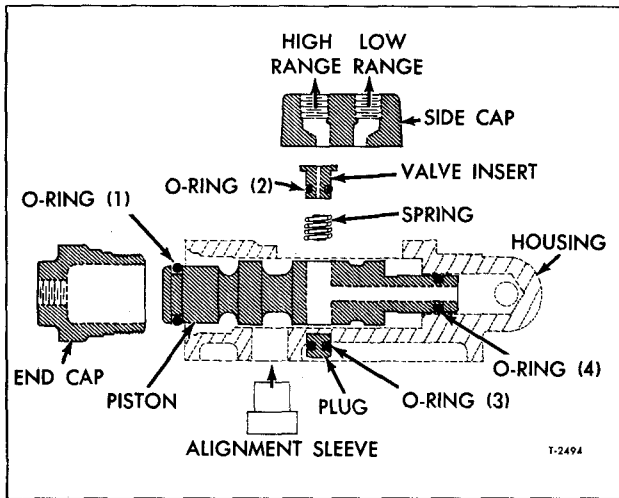

Figure 13—Air Valve
3. Remove alignment sleeve shown in figure 13.
Key numbers in text refer to figure 13.
Assembly (Refer to Fig. 13)